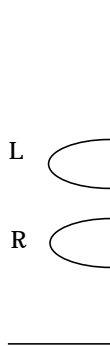

FIGURE 3-1 Detail of Rail, Showing Slots
4. Working from the front of the cabinet, install the side rails by sliding the slot in each rail onto the screw (see FIGURE 3-1).